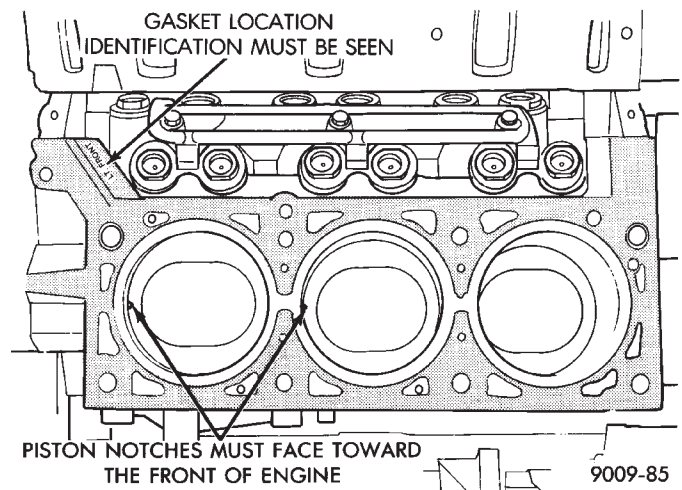

Fig. 15 Piston I.D. Notches
(6) Tap the piston down in cylinder bore, using a hammer handle. At the same time, guide connecting rod into position on connecting rod journal.
(7) The notch or groove on top of piston must be pointing toward front of engine (Fig. 15).
(8) Install rod caps. Install nuts on cleaned and oiled rod bolts and tighten nuts to 54 N•m (40 ft. lb.) Plus 1/4 turn.